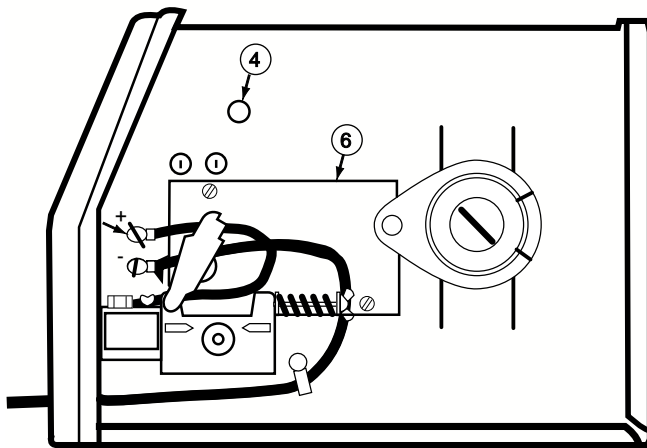

FIGURE B.1b
4. Circuit Breaker – Protects machine from damage if maximum output is exceeded. Button will extend out when tripped (Manual reset) Refer to Figure B.1b.